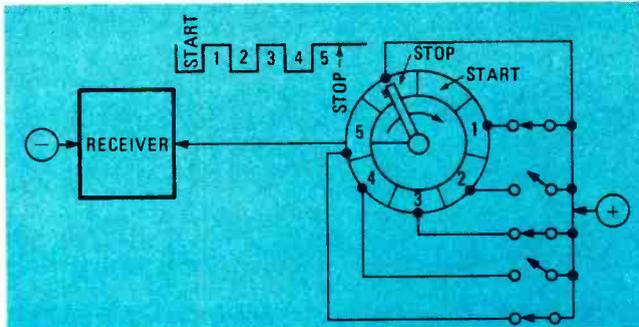

FIG. 3—ASYNCHRONOUS SERIAL TRANSMISSION includes start and stop bits in addition to the data bits.
The pulse programmer in Fig. 3 is primarily intended to be used with the cassette autodialer alarm system. It is
FIG. 3.—PULSE PROGRAMMER uses a multivibrator to develop the audio tone pulses that dial the phone or perform other operations. Mike signal feeds through programmer to recorder.
**PULSE PROGRAMMER** with its electronics (Fig. 3) and telephone dial are built into a small plastic utility box or similar housing.
The bit-serial transmission mechanism shown in Fig. 3 is
Figure 4 shows a 20 mA (20-mil) current-loop interface. The circuit has only two wires, with the earth commonly used in place of one wire. A mark condition or logic 1 is defined as a complete circuit; a space or logic 0 is an open circuit; and information is transmitted as is shown in Fig. 3. This circuit is the standard interface for teletypewriter devices.